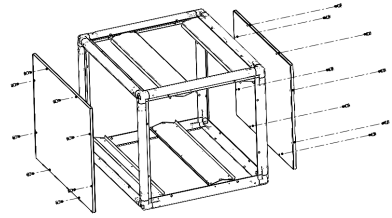

Fig. 6 Install both side access panels. (3-ton model shown.)
4. Install both side access panels using the ¼-20 shoulder bolts. Each panel will require qty 8 shoulder bolts. See Fig. 6.